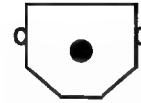

FIGURE 11: FIBER OPTIC CABLE CONNECTOR
2. The cable and machine linking connectors are keyed so that they can only be connected when the long flat side of the cable connector is facing up (see Figure 11).